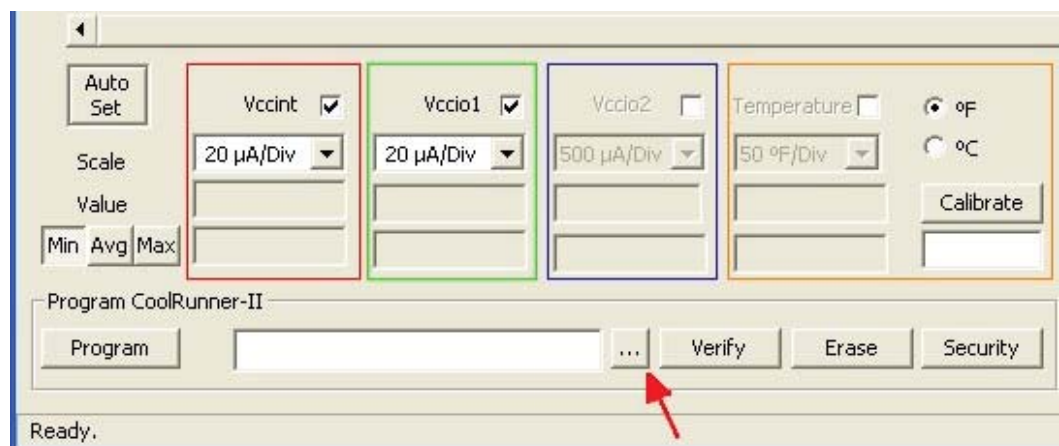

Figure 1-3: Browse Button
5. After the **CoolRunner-II Utility Window** appears, press the **Browse** button (shown in Figure 1-3) and navigate to the desired JED file. (The demonstration JEDEC file is present on the resource CD at /CR-II_board_files/demomain/top.jed).